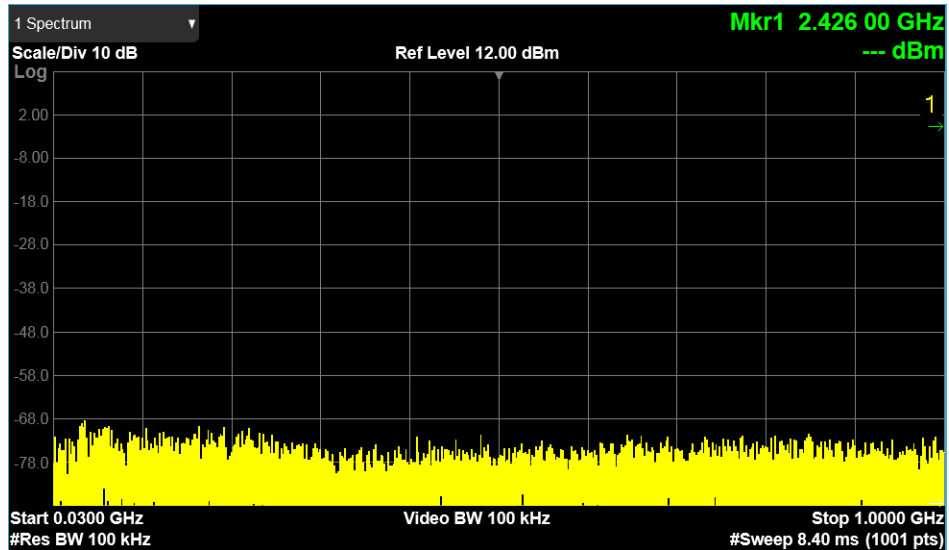

Fig 17. Tx out-of-band spurious @ 250 kbit/s
- The Tx out-of-band spurious with the GFSK data rate of 250 kbit/s and frequency band from 30 MHz to 1 GHz is shown in Fig 17.